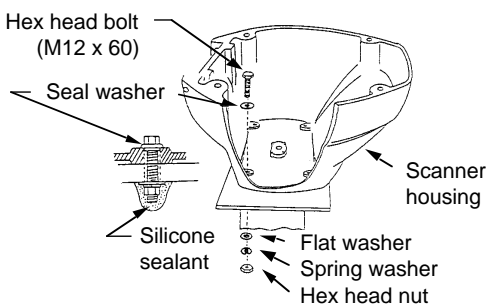

Figure 6-12 How to mount the antenna housing
4. Insert four M12 x 60 hex head bolts with the seal washers from inside the antenna housing, to prevent the bolts from contacting the transceiver module. Install the seal washer with the larger diameter next to the head of the bolt. Coat flat and spring washers and nuts and then use them to fasten the antenna housing to the mounting platform. Finally, coat exposed parts of nuts, bolts and flat and spring washers as shown in Figure 6-12.